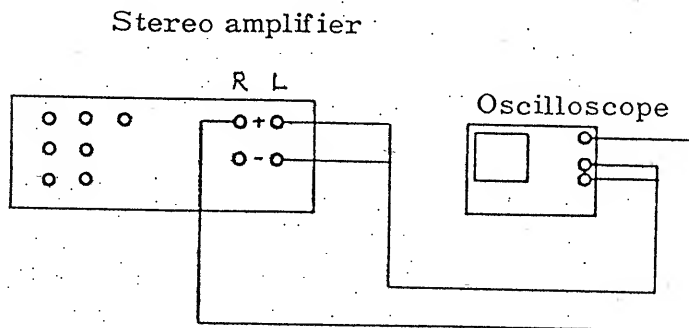

Fig. 5
##### (2) Monitor of output signal of stereo amplifier ( See Fig. 5 )